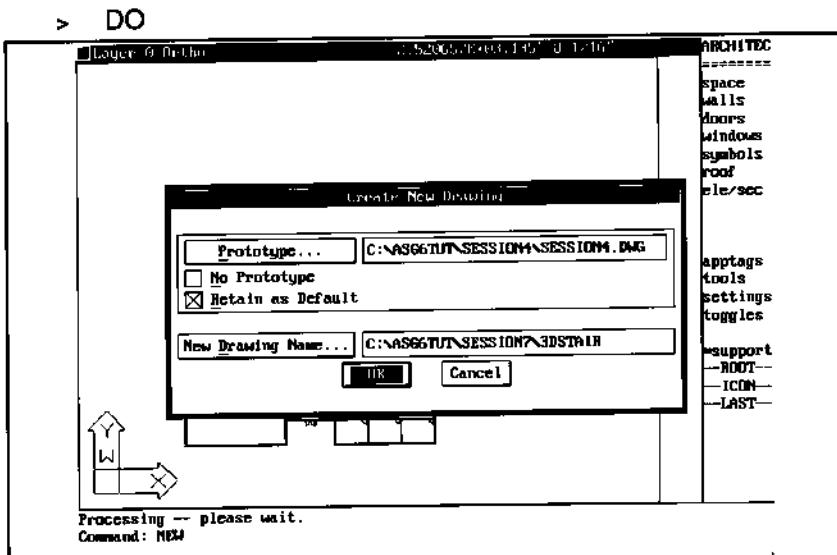

Figure 65.
2. Enter the path and drawing name in the Create New Drawing dialog box. The drawing from Session 4 should still be set as the prototype drawing with an X in the box adjacent to Retain as Default, as shown in Figure 65.